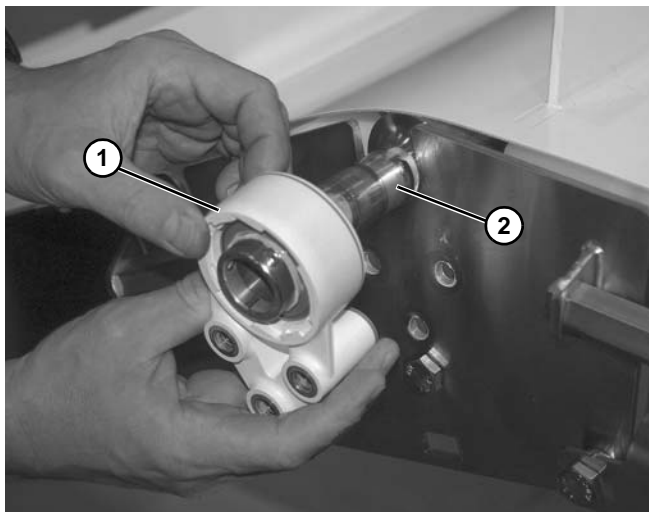

Figure 196
5. Remove bearing housing (**Figure 196, item 1**) from spindle shaft (**Figure 196, item 2**).